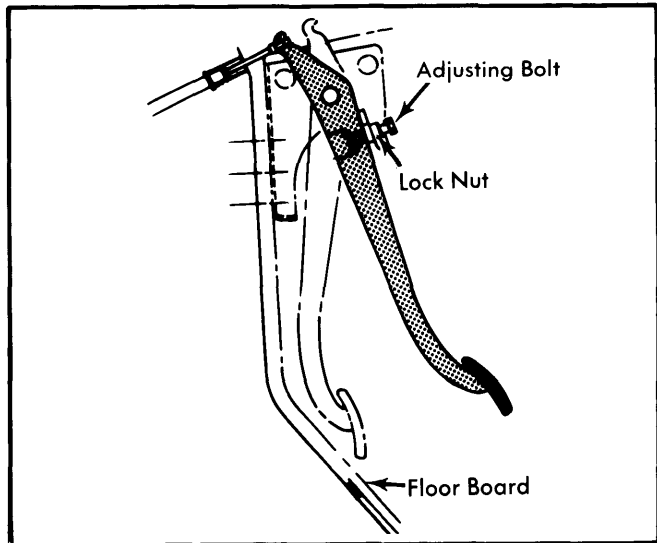

Fig. 3 Clutch Pedal Adjustment Procedure
- 1) Move pedal adjusting bolt (See Fig. 3) until distance between toe board and top face of clutch pedal is 6.5-6.7" (165-170 mm).